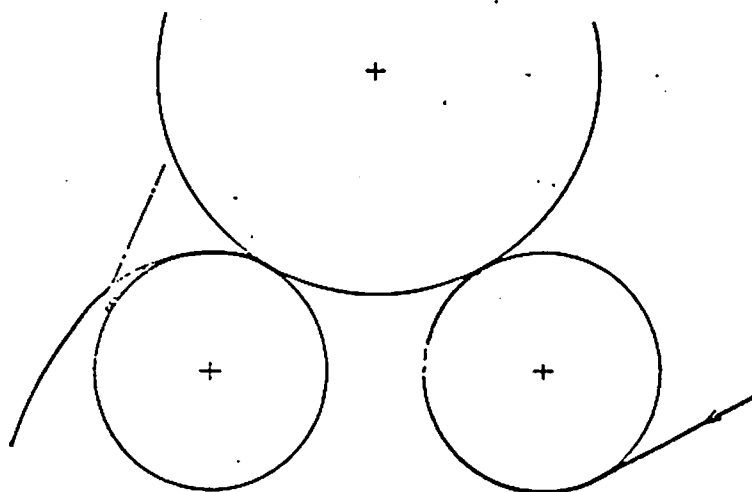

Fig. 5
6. Pull the trailing web edge down across the front winding drum tightly (fig. 5) and press the web against the adhesive face of the Scotch tape No. 405. Crease the overhanging end of the web and tear it off.